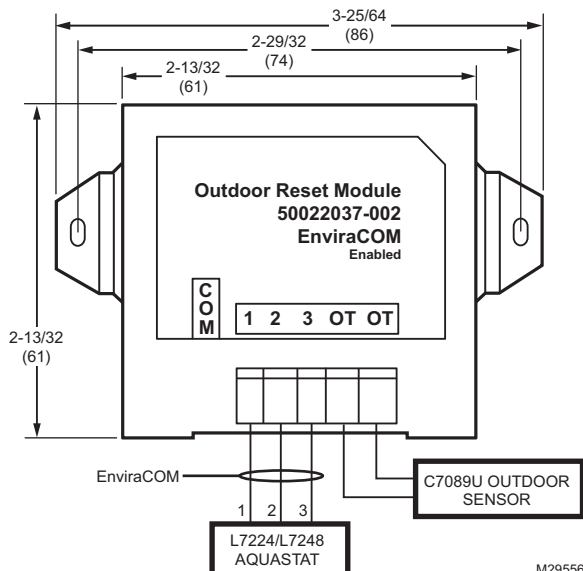

Fig. 1. 50022037-002 Outdoor Reset Module wiring diagram.
2. Wire the 1,2, and 3 terminals on the Outdoor Reset Module to the 1,2, and 3 terminals on the EnviraCOM™ enabled thermostat (if available), Aquastat, or anywhere on the bus where access is available and convenient. See Fig. 1.
3. Wire the 2 wires from the C7089U temperature sensor See Fig. 1 into the OT terminals on the Outdoor Reset Module. One wire inserted into 1 OT terminal, the other wire inserted into the other.